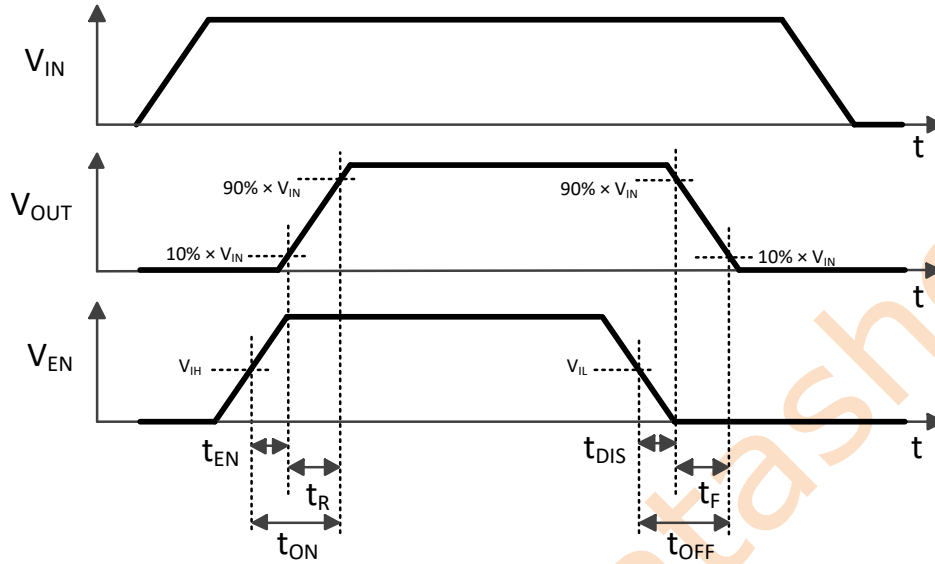

Figure 1. Timing diagram by EN pin toggled
*Note 3: The time period indicated by each parameter is defined as Figure 1.